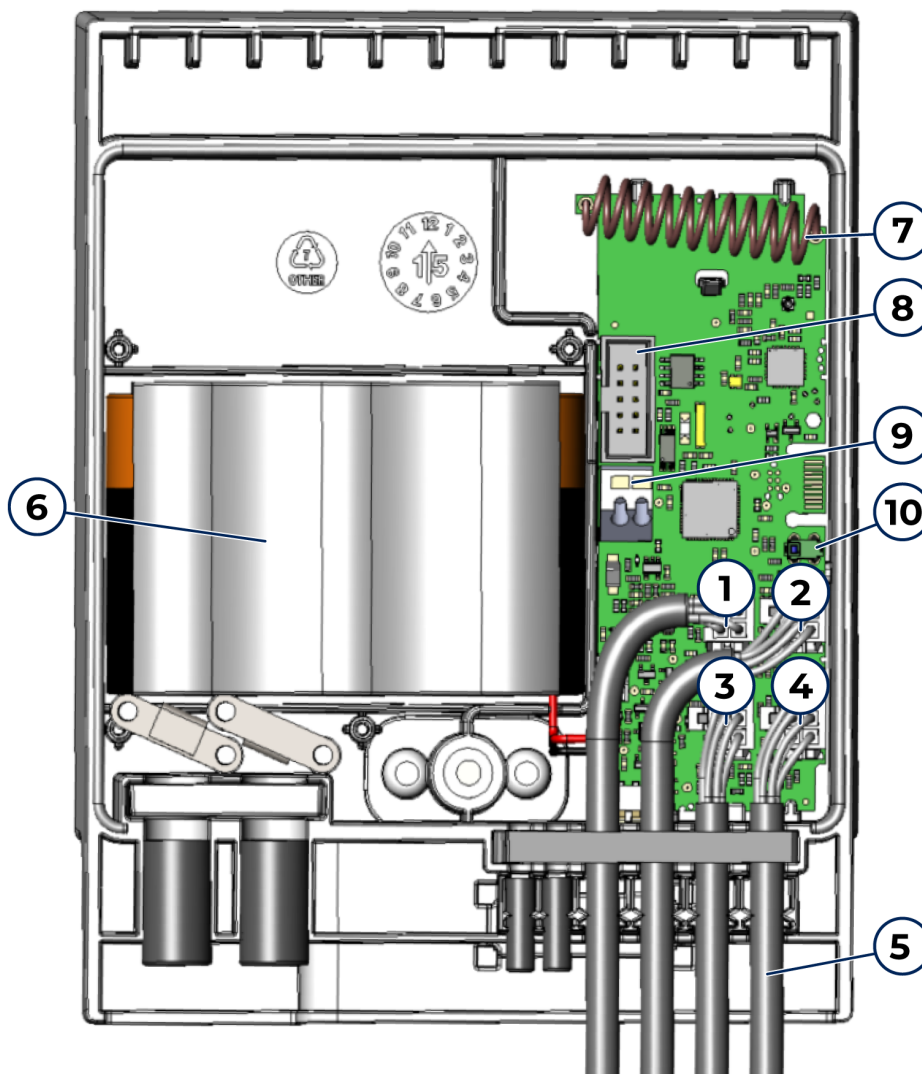

Figure 1. Installing cables to the household unit EVH-RB
2. Install the cables in the order shown in Figure 1.